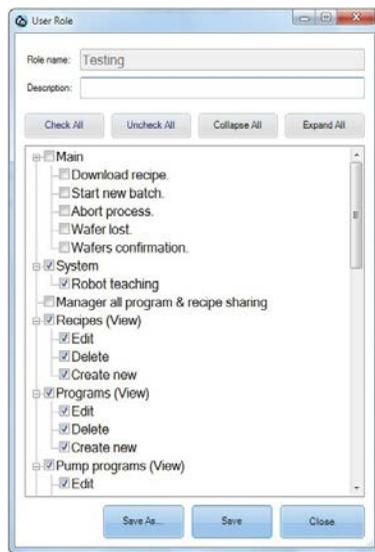

FIGURE 4-17: Modifying a user role
4. Click *Save As* to save the modified user role under a different name, or *Save* to save it under the same role name. See Figure 4-17.